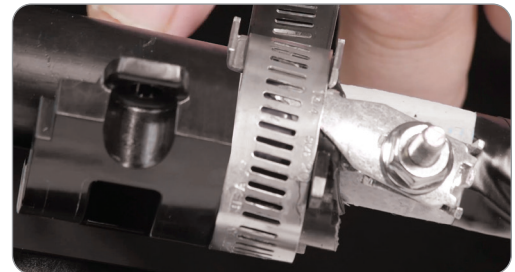

Figure 13
- Armor bond should be at 90 degrees to the CAU. (Figure 13)